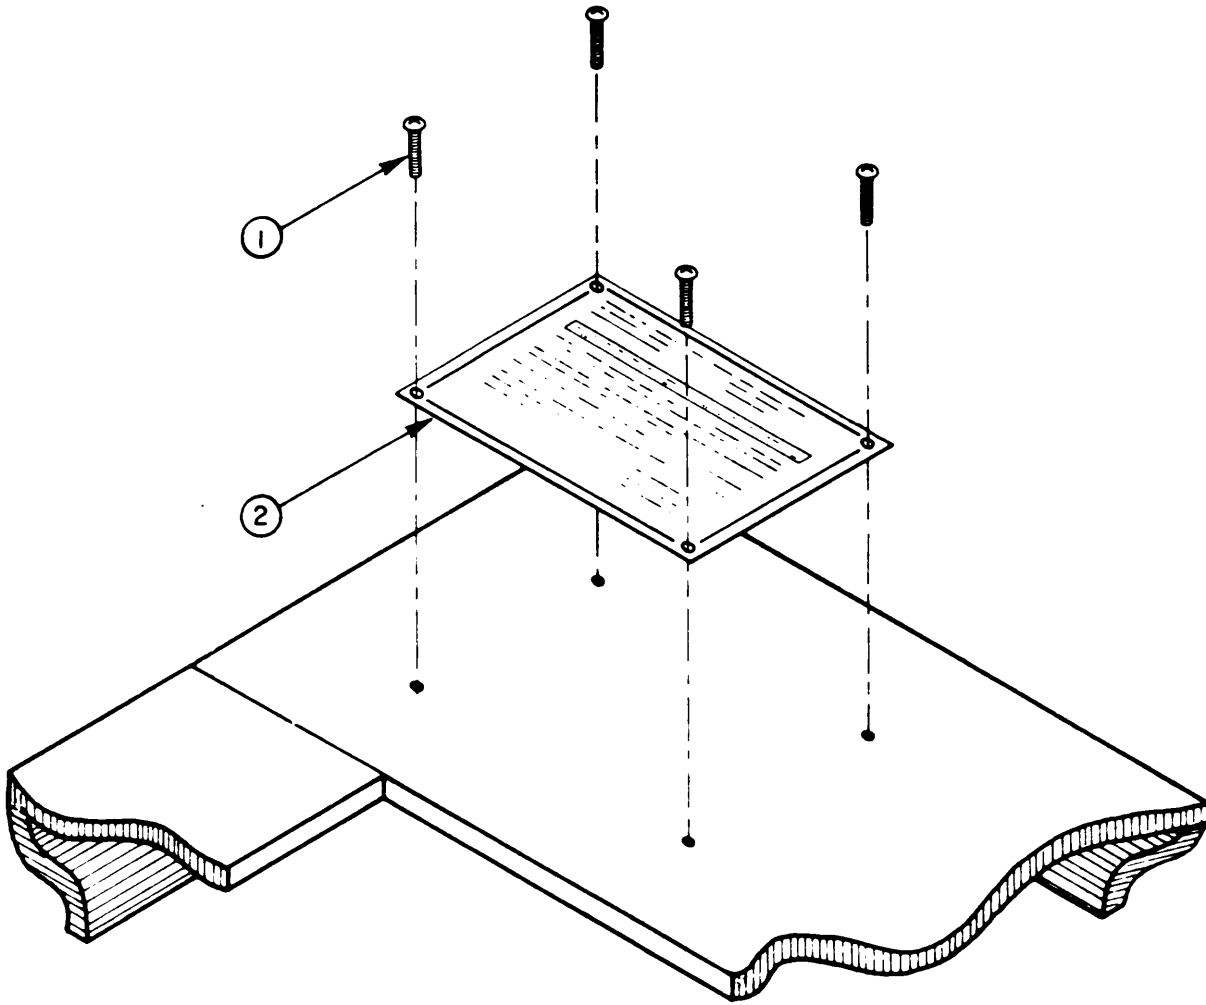

Figure 3-4. Data and Instruction Plates (Typical)
3-9 DATA AND INSTRUCTION PLATES. (Figure 3-4)
Remove four screws or rivets (1) (figure 3-4) at corners of plate (2).
(1) Clean dirt and corrosion from the surface of the equipment where the new data or instruction plate is to be installed. Use sandpaper or solvent or both. Dry the surface. Paint, if necessary, and let the paint dry.